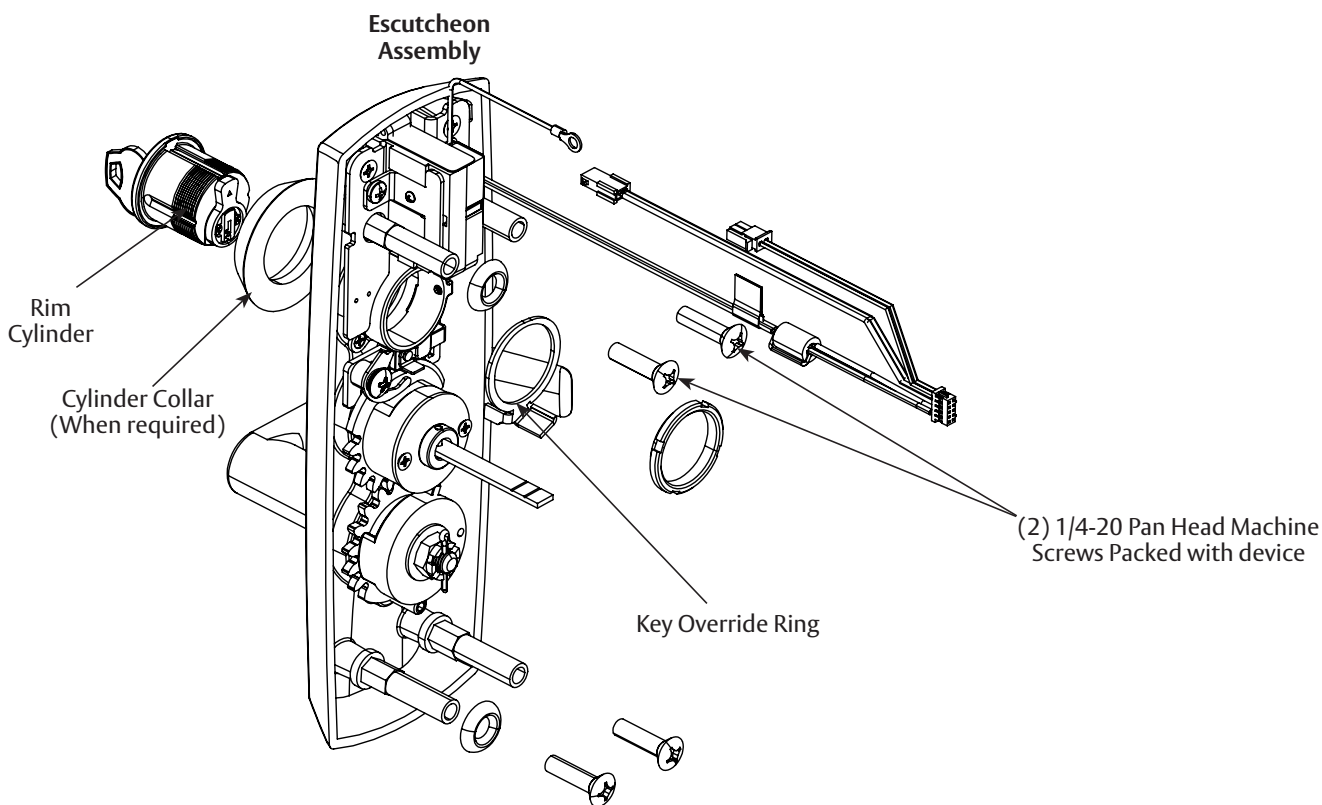

Figure 5-3D
4. Escutcheon Assembly (Figure 5-3D):